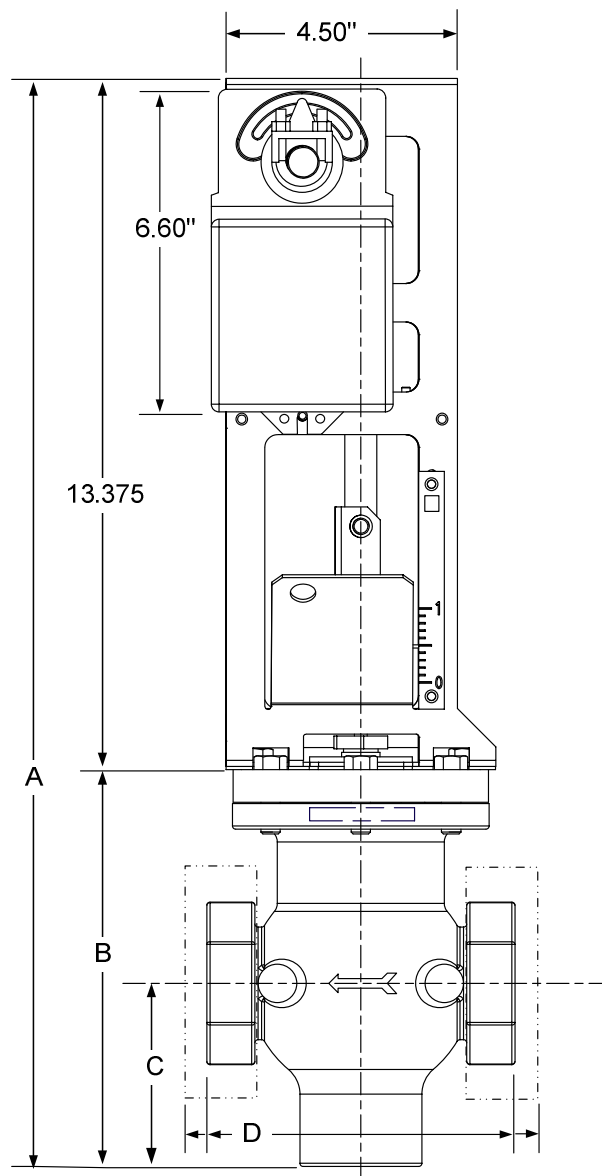

Figure 1-1. Reference Dimensions for AERCO Electronic Control Valves, Type CXT-E
Each Electronic Control Valve is comprised of three major sections; the Valve Body, the Linkage Assembly and the Valve Actuator. The Control Valves are available in sizes ranging from 1 inch to 4 inches. An identical Actuator Assembly is used with each size Valve Body. The Linkage Assembly used with each size Valve Body is identical, except for minor differences in the Shaft Adapter stroke of the mechanical linkage. Figure 1-1 shows the basic dimensions for each size AERCO Electronic Control Valve, Type CXT-E.
1. Refer to Figure 1-1 for dimensions of the Control Valve furnished with the Packaged Water Heater.